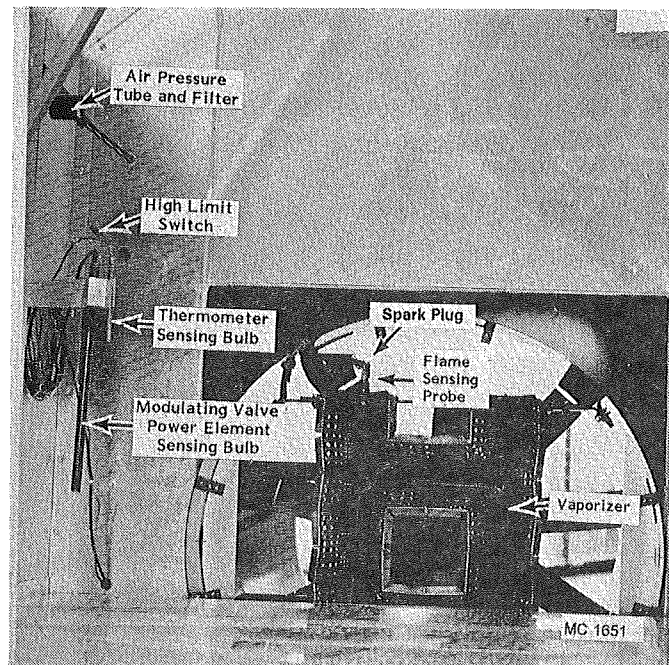
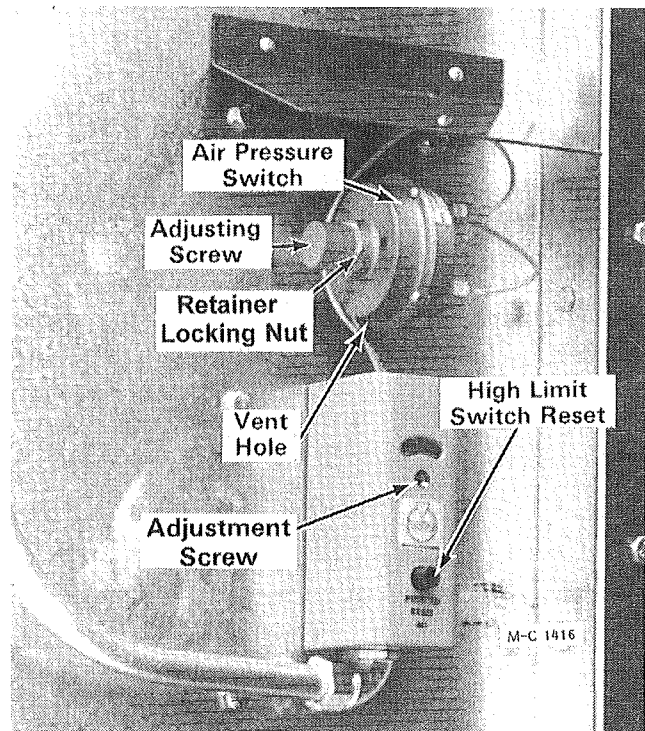

Figure 41
Figure 42
6. Remove the air pressure switch(es) and clean the tube and filter. See Figure 41. Be sure the vent hole in the bottom of the air pressure switch is open, see Figure 42.
5. Turn on the electric power supply to the dryer and turn the Power On Switch to ON. The Power On Light and High Limit Light(s) will be on. If any high limit light is not on, push the reset button on that high limit switch, see Figure 42.
6. Start the bottom burner fan, the air pressure light will be ON. When the fan comes up to speed, open the burner gas manifold hand valve ¼ of the way. Be sure Burner Switch is in the LOW position. Turn the ignition switch ON. After a (15) second delay the gas valve light will be ON and the burner will light.